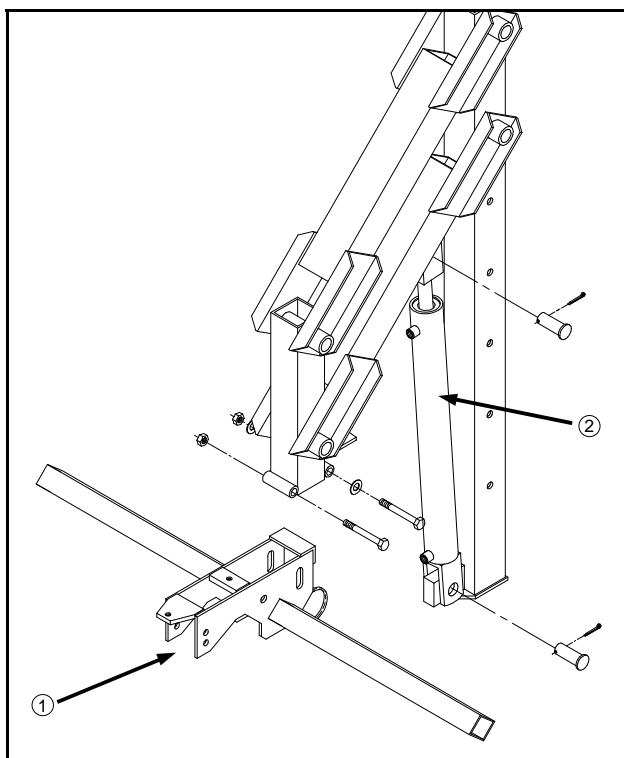

FIG 4.10
3. Attach the lift arm cylinders to the lift arm assemblies (fig. 4.10, item 2).
4. Attach the tool bar weldment to the lift arm assemblies (fig. 4.10, item 1).